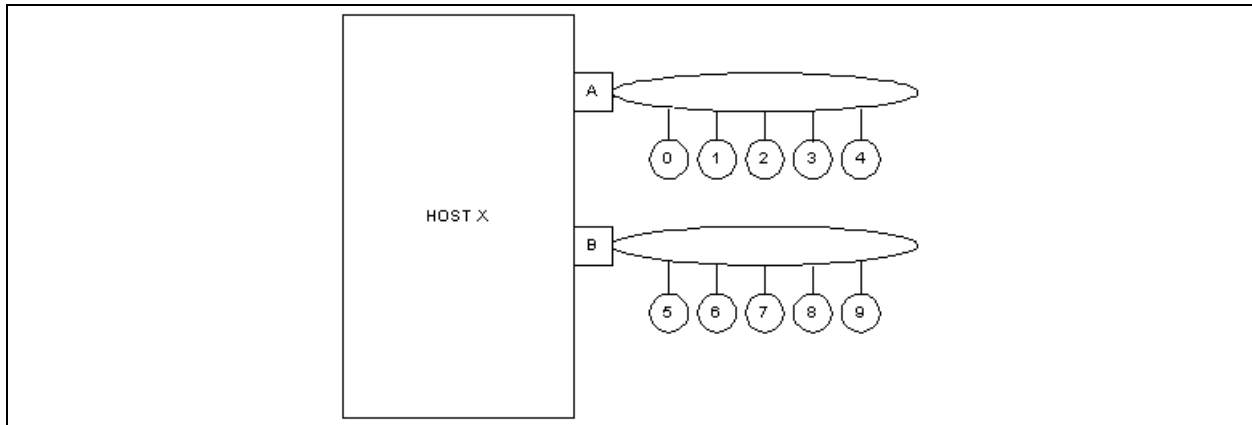

Figure 2-1. Single-Ported Configuration
Figure 2-1 shows a simple single-ported (non-failover) configuration consisting of 1 host (X), 2 HBAs (A and B), and 10 target devices (0–9). This configuration assumes that the host has access to all connected devices; therefore, an HBA operating system driver is required, but the rest of the SANblade Manager application is not required. Other SANblade Manager components help manage devices more easily.
Note that figure 2-1 simplifies hardware connections: target devices can be connected through a local loop, Fibre Channel hub, Fibre Channel switch, or any combination of those. Fibre Channel topology is useful in troubleshooting situations; however, a basic configuration requires only this basic diagram showing which hosts and HBAs are connected to which target devices. This is not a failover configuration; each target device is accessible through only one HBA.